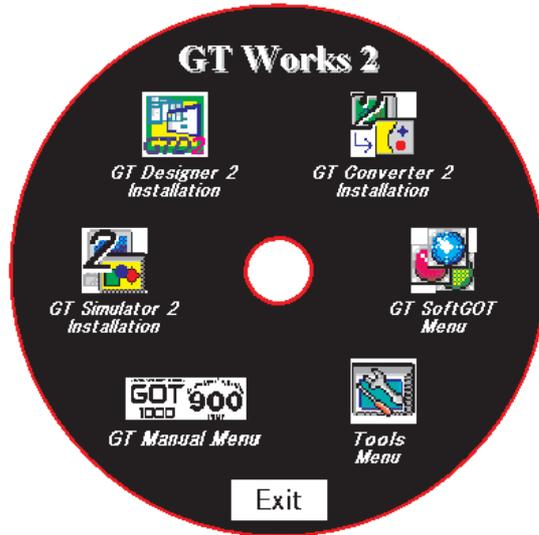

Fig. 2-2:
- ① Click the software to be installed (Fig. 2-2).
- ② Follow the instructions on the screen. These instructions will lead you through the installation. To continue the installation procedure click on **NEXT**.
- ① Select the option **GT Manual Menu** on the menu screen (Fig. 2-2).